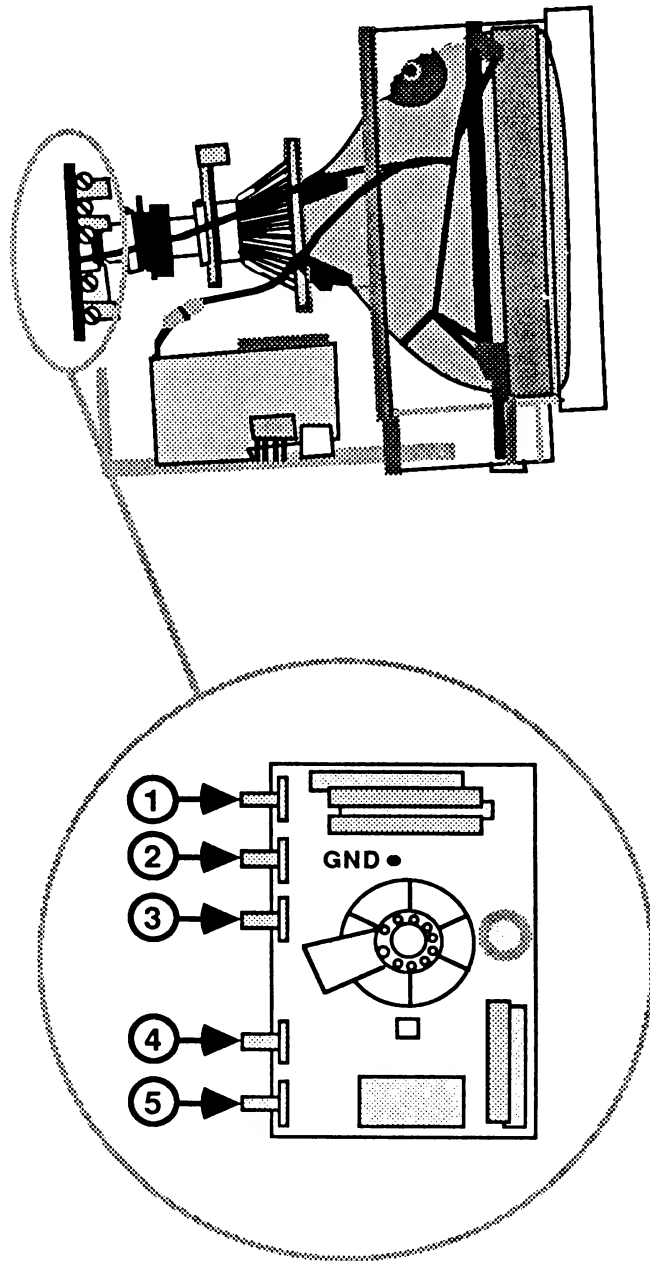

FIGURE 9
15. Locate the internal color controls on the CRT socket board (Figure 9).
- a. **B-DRIVE** (Figure 9, #1) - 1/2 clockwise position.
- b. **R-DRIVE** (Figure 9, #4) - 3/4 clockwise position.
- c. **B-BKG** (Figure 9, #2) - 1/2 clockwise position.
- d. **G-BKG** (Figure 9, #3) - 1/4 clockwise position.
- e. **R-BKG** (Figure 9, #5) - 1/2 clockwise position.
17. Rotate the **B-DRIVE** control (Figure 9, #1) clockwise until the raster begins to appear bluish.
18. Rotate the **R-BKG** control (Figure 9, #5) to its 1/4 clockwise position, then rotate it clockwise until the raster just begins to show a reddish hue.
19. Alternately adjust the **B-BKG** and **G-BKG** controls (Figure 9, #2 and #3) until the raster is a grayish-white. No predominant color (red, blue, or green) should be visible. These controls should not have to be turned very far in the clockwise direction to achieve a neutral grayish-white raster.